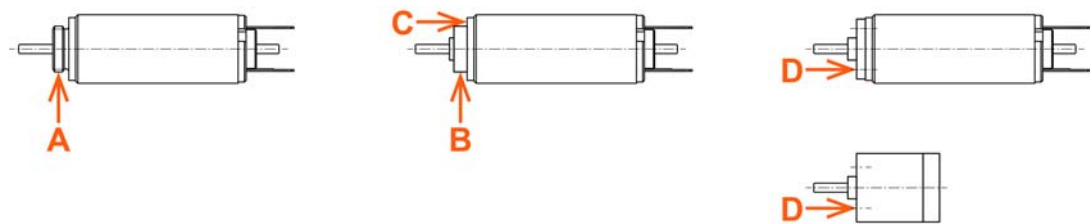

Figure 2 Mounting Methods
- Fixation of the motor: We recommend to use either center thread or centering collar (→Figure 2).
Basically, fixation at the periphery (at the outer diameter) is possible. **In order to prevent irreversible damages, we recommend one of the following mounting methods (→ Figure 2):**